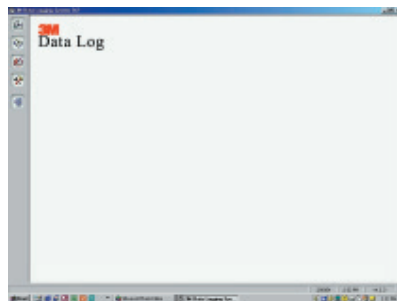

Figure 6
2. Click on  (Figure 6) to launch **Employee Records** function (Figures 7 & 8).